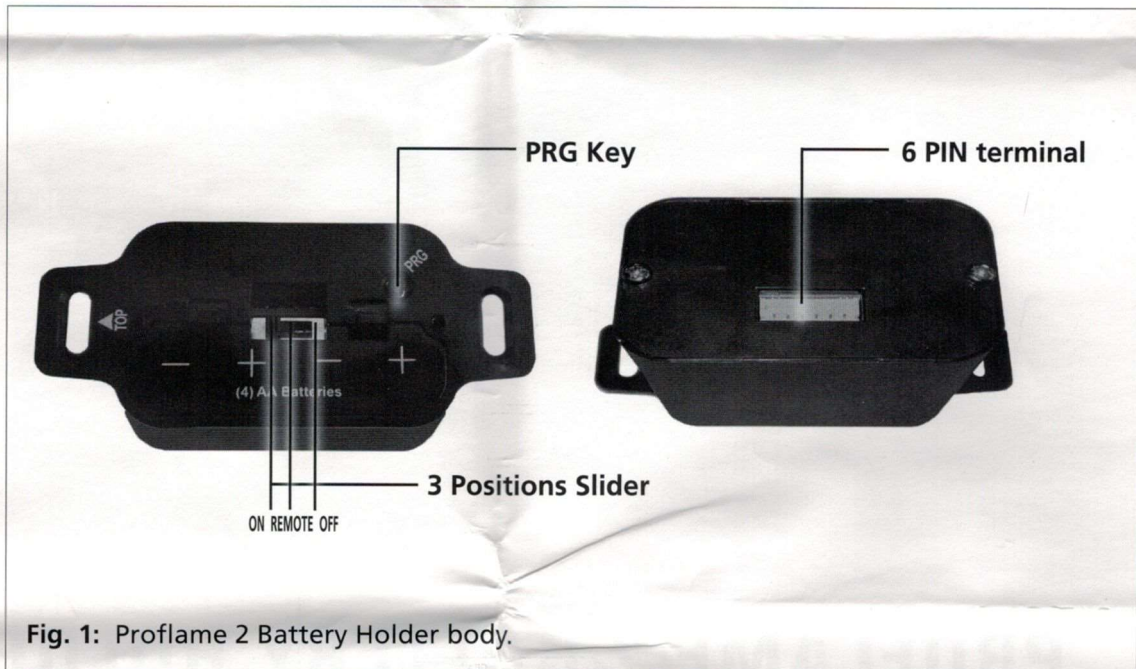

Fig. 1: Proflame 2 Battery Holder body.
Install the 4 AA batteries into the Proflame 2 Battery holder battery bay. Note the polarity of the battery and insert into the battery bay as indicated on the cover (+/-). Place the 3 position slider switch in the "Remote" position. (Fig. 1) Insert the end of a paper clip or similar object into the hole marked "PRG" on the Receiver front cover. (fig 1) The Receiver will "beep" three (3) times to indicate that it is ready to synchronize with a Transmitter. Install the 3 AAA type batteries in the Transmitter battery bay, located on the base of the Transmitter and push the On button. The Receiver will "beep" four times to indicate the Transmitter's command is accepted and set to the particular code of that Transmitter. The system is now initialized.